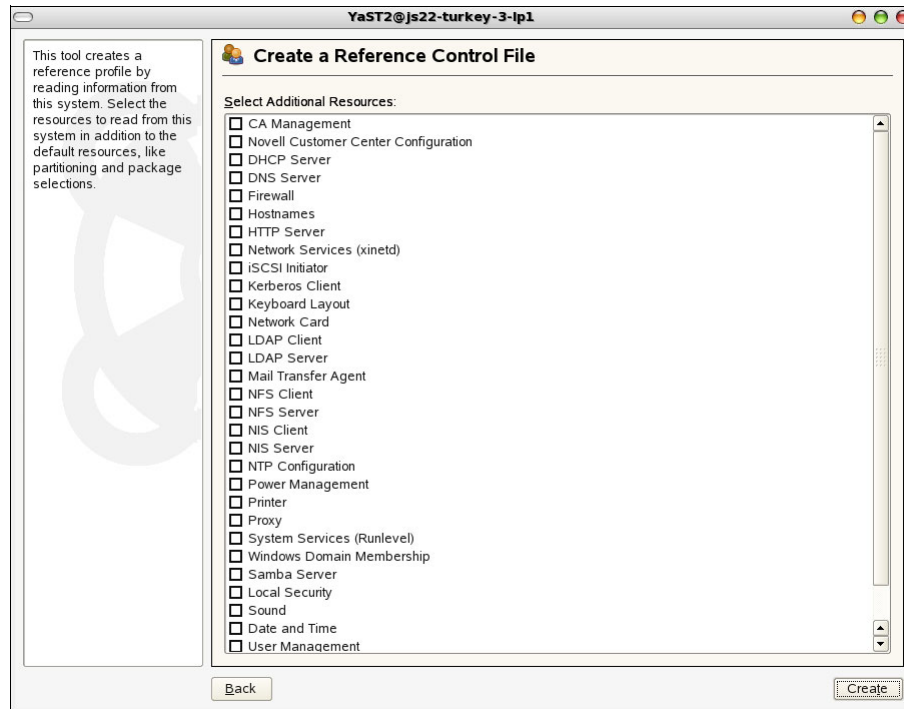

Figure B-6 Selecting additional resources
4. A second window opens, as shown in Figure B-6. In addition to the default resources such as boot loader, partitioning, and software selection, it is possible to add other aspects of your system to the profile by checking items in the Select Additional Resources section. When ready, click **Create** so YaST can collect the system information and create the AutoYaST profile.